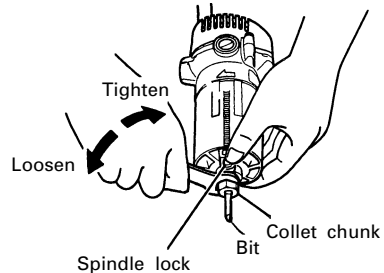

Fig. 2
Confirm that the spindle lock is disengaged by pushing the push button two or three times before switching the power tool on. (See Fig. 2)
- (2) Deeply inset the bit into the collet chuck hole. (The distance is 15 mm or more from side of collet chuck.)
- (3) Depress spindle lock (Fig. 2) and rotate collet nut clockwise by hand until lock engages hole in motor spindle.
- (4) While holding spindle lock engaged, tighten collet nut securely by turning clockwise using wrench provided.